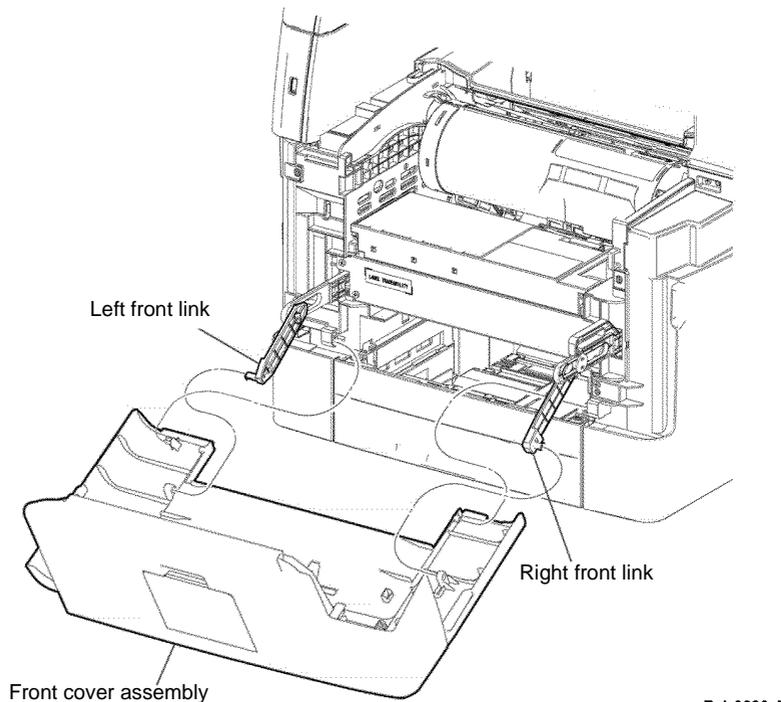

Figure 1 Front cover assembly removal
3. Open the front cover assembly. Release the hooks on the right and left front links, Figure 1.
4. Remove the front cover assembly by flexing it to release one of the bosses from the hole, Figure 1.